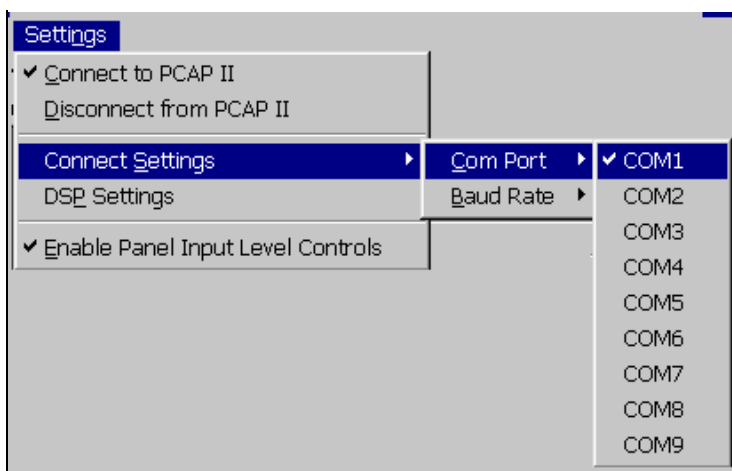

Figure 6-1 ComPort Selection Menu
2. When the pulldown menu appears, click on "ComPort". The display will now appear as follows (Figure 6-1).